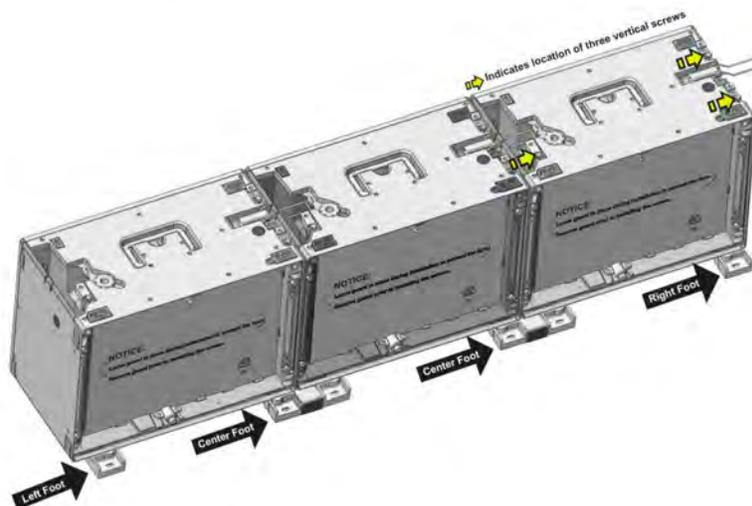

Figure 2-7 Assemble Final Tile in First Row
- Assemble a right leveling foot to the final tile in the row and secure it to the last tile in the first row (**Figure 2-7**). **INSTALLATIONS WITHOUT LEVELING FEET:** When installing an array without leveling feet ensure the surface underneath the array is flat. **DO NOT** use the vertical screws in the bottom row of installations without leveling feet to ensure the tiles sit flat.